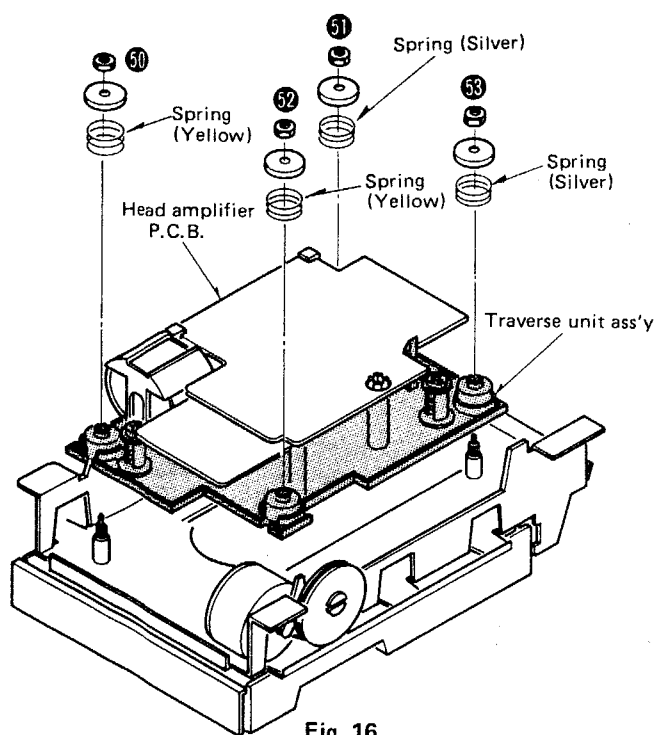

Fig. 16
5. Turn over the traverse unit and remove the nuts [Fig. 16: ⑤① ~ ⑤③], then the traverse unit ass'y can be removed.